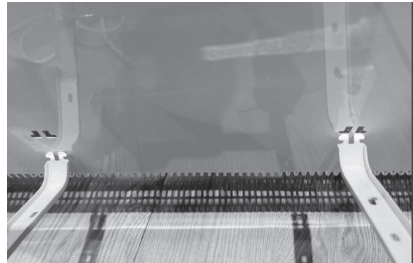

Fig.4
- 3. Slide down the bottom of the vertical bars to remove the wall bracket (Fig. 4).